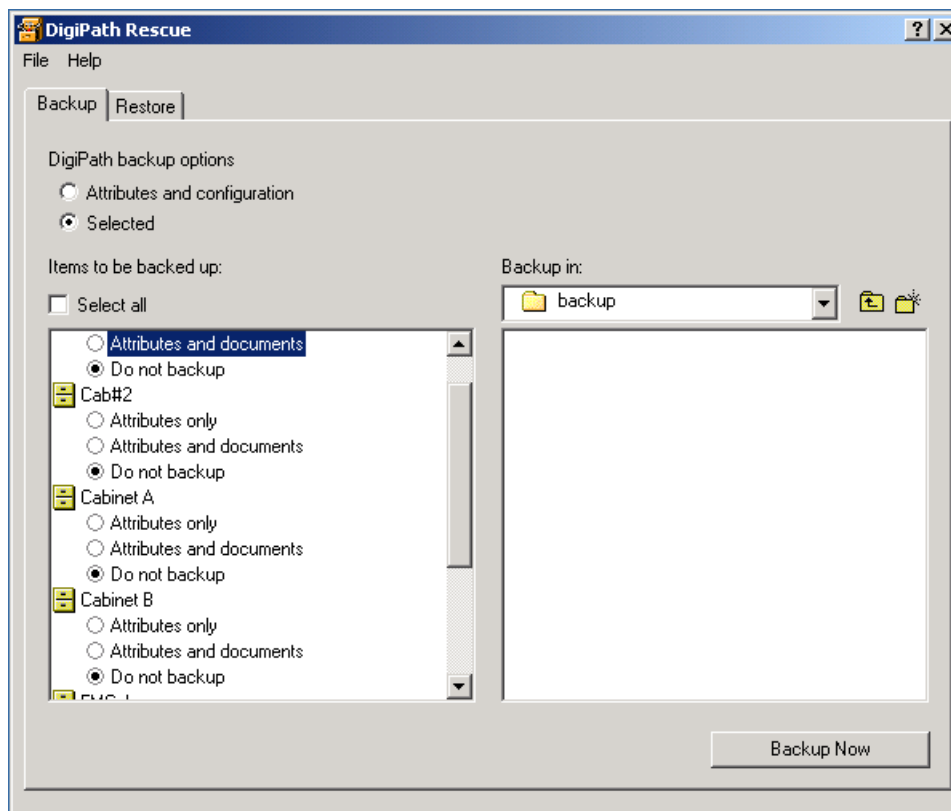

Figure 5-1. DigiPath Rescue
3. Log into the DigiPath Rescue application. See Figure 5-1